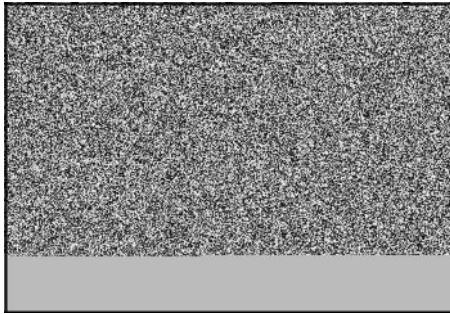

Figure 13
2. Remove retaining ring and governor idler gear (A, Figure 13). Remove oil seal.